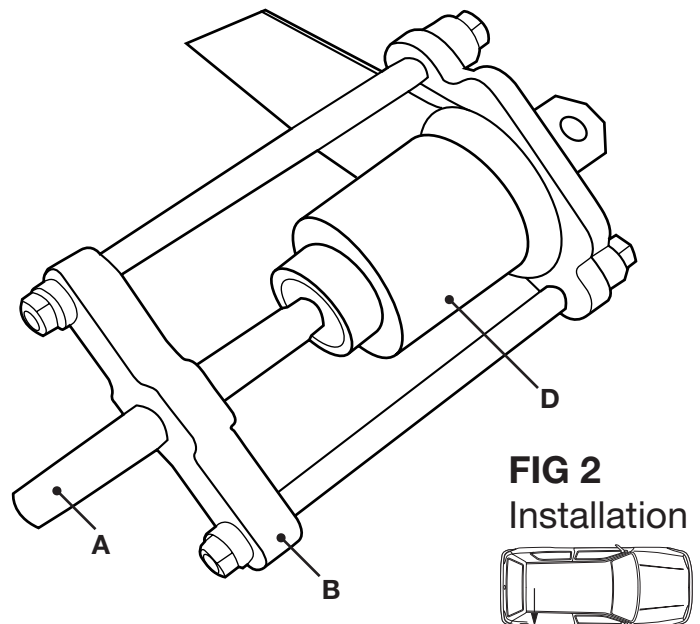

FIG 2
- 1 Re-assemble the tool using the installation sleeve (Fig 2)
- 3 Position the slot on the installation tool facing towards the rear of the car. The tool should be pushing from the centre of the car to the outside (Fig 2)